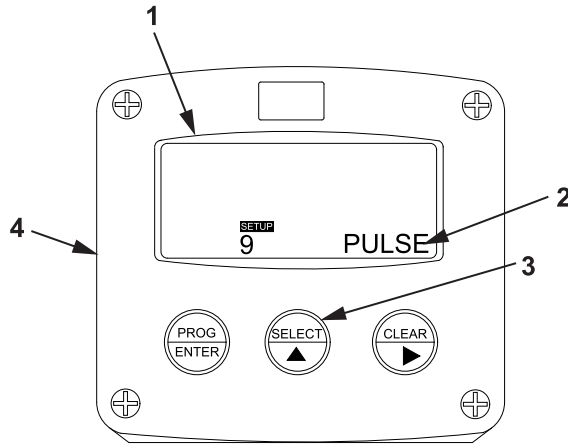

Figure 40. PULSE Display.
19. Verify that PULSE (Figure 40, Item 2) appears on the display screen (Figure 40, Item 1) as follows:
20. Verify default settings for function group PULSE (Figure 40, Item 2) as follows:
- a. Press the SELECT key (Figure 40, Item 3) on the tank volume meter monitor (Figure 40, Item 4).